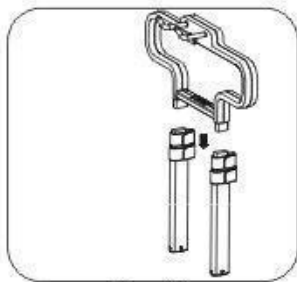

Fig. 3
- Fig 3: Install the hanger to the telescopic tube.